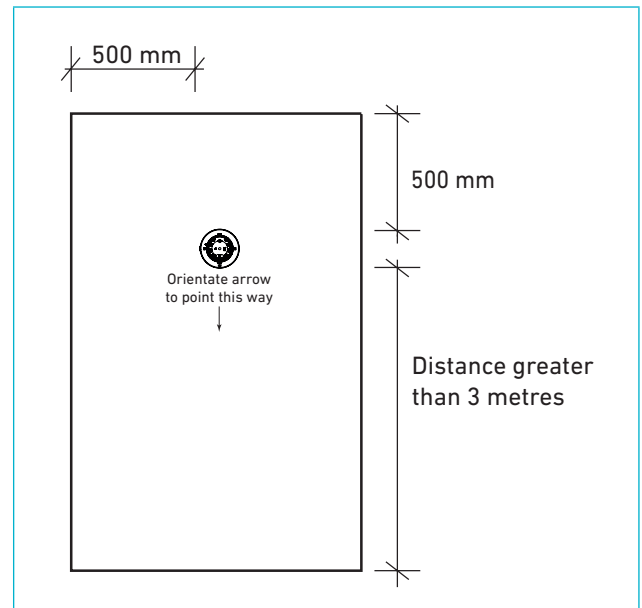
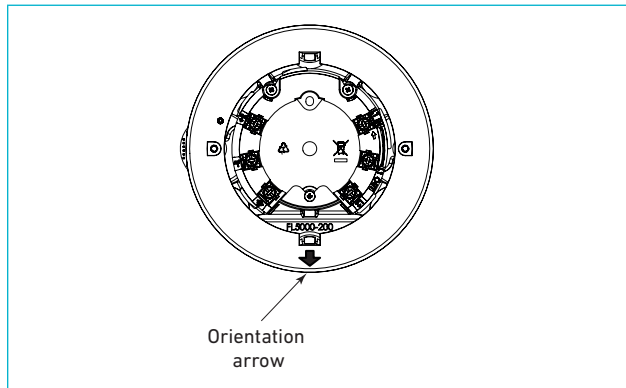

Figure 1: Minimum clearance
Figure 3: Orientation arrow
- Areas with dimensions less than the minimum clearance (see Figure 1).
The arrow printed on the backbox (see Figure 3) **must always** face in the direction of the longest dimension of the room i.e. the distance that is greater than three metres (see Figure 1).